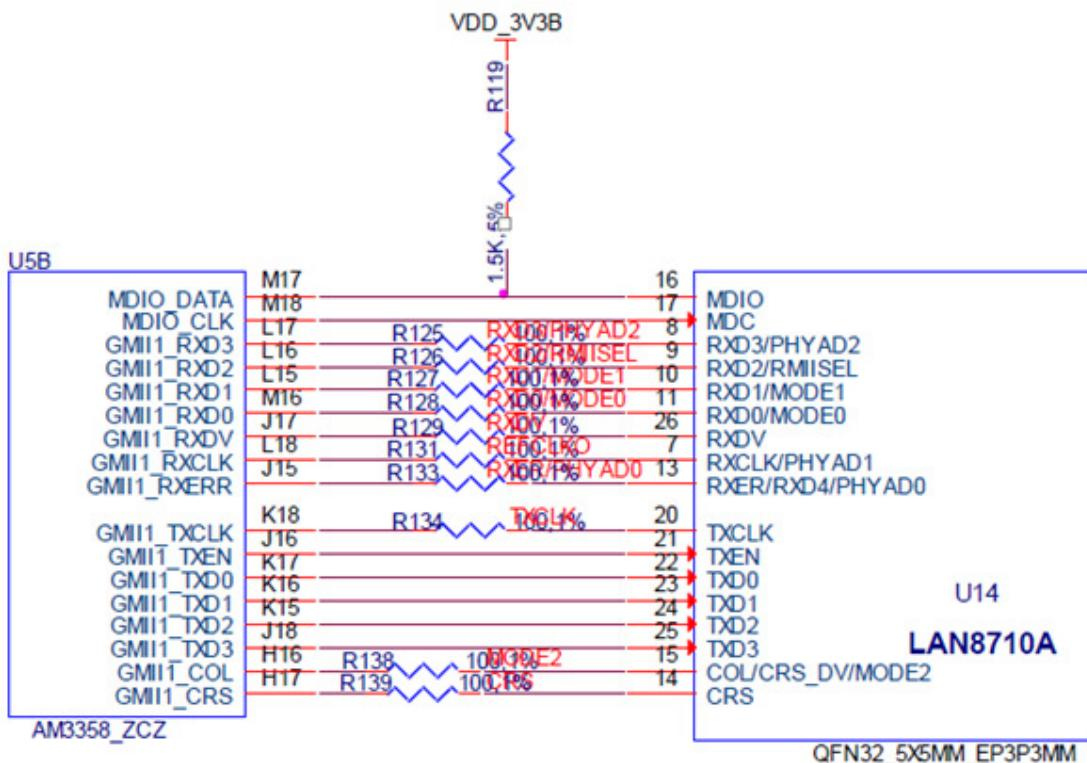

Figure 40      Ethernet Processor Interface
**Figure 40** shows the connections between the processor and the PHY. The interface is in the MII mode of operation.